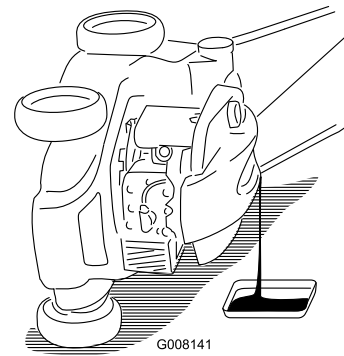

Figure 29
5. Tip the mower onto its **left** side (with the air filter up) to allow the used oil to drain out through the oil fill tube (Figure 29).